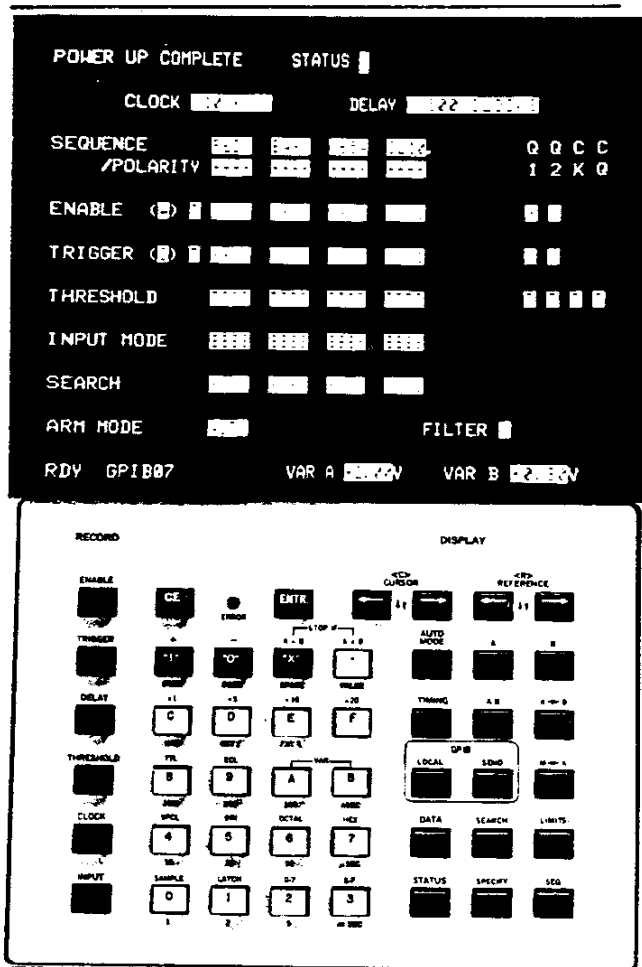

Figure 6.1 Status Display and Keyboard
6. Check the screen in Figure 6.1 for the proper power-up format.
Power up the K100-D. Status mode is shown. Verify the full display on the screen. Obtain the desirable display as follows (see Figures 6.1, 6.2 and 6.3):